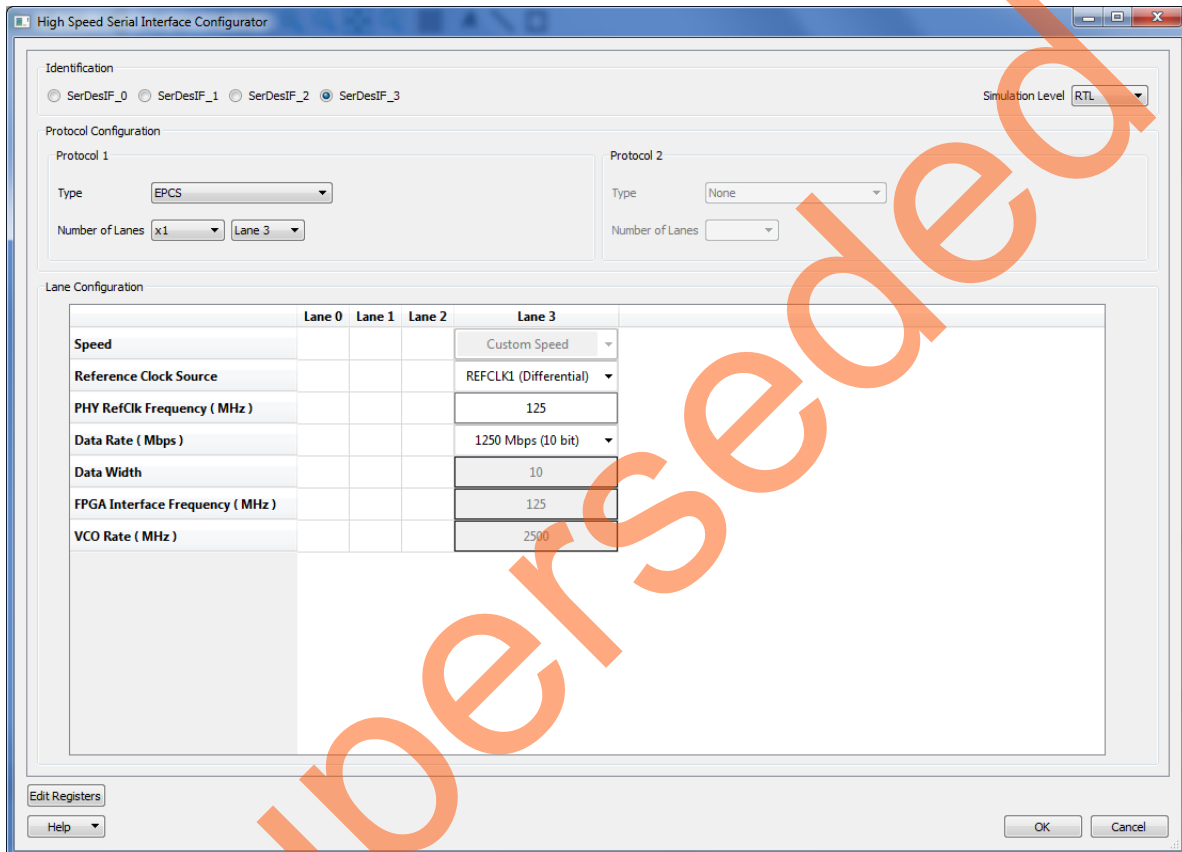

Figure 5 • High Speed Serial Interface Configurator Window
4. High speed serial interface (SERDESIF) **SERDES_IF IP**, configured for **SERDESIF_3 EPCS lane3** as shown in Figure 5.